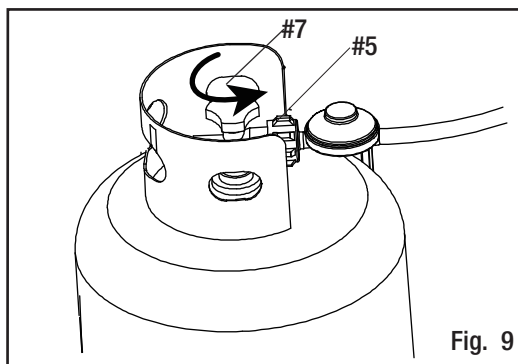

Fig. 9
2. Open the access doors. Turn on the gas cylinder valve (#7) to the fully opened position. (Fig. 9)